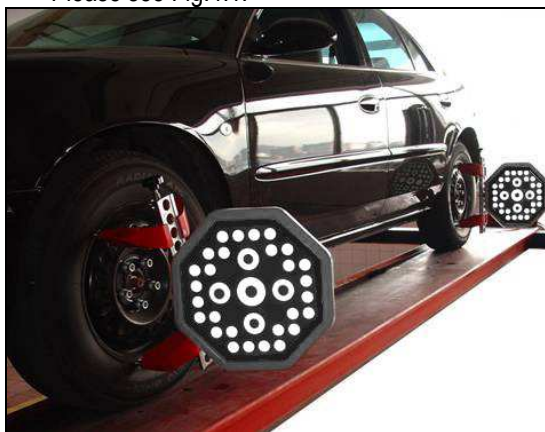

Fig.4.1
4. Install the wheel clamp-target assembly on the wheel and turn the knob to lock the wheel clamp. The claws of the wheel clamp should be fixed on the external or internal edge of the rim according to the practical condition. Ensure equal depth for each claw and avoid attaching it on the distorted area. Use the safety belt to bind the wheel clamp to the wheel rim to avoid falling accidentally. Please see Fig.4.1.